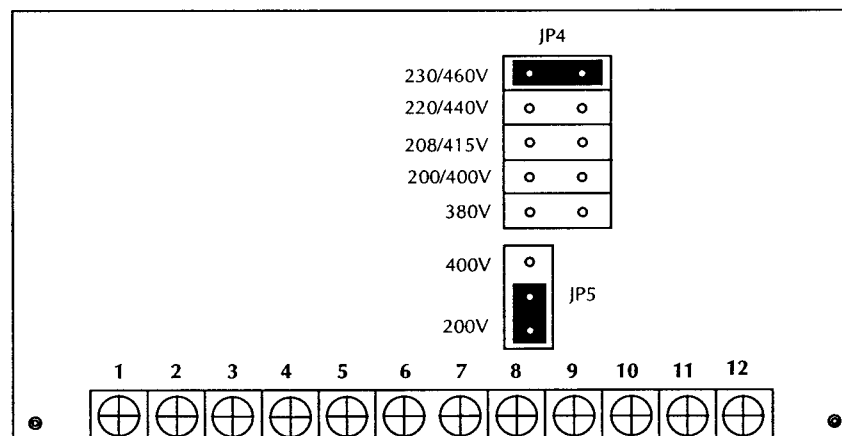
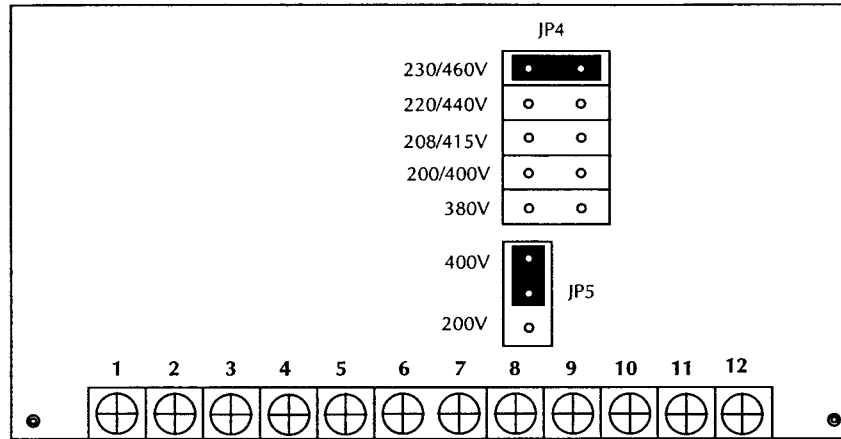

Figure 1.19: 200V
Figure 1.20: 400V
10. “Jumper” JP5, and then JP4, on the DBU logic card, as indicated in Figure 1.19: 200V and Figure 1.20: 400V, to correspond with the incoming line voltage.